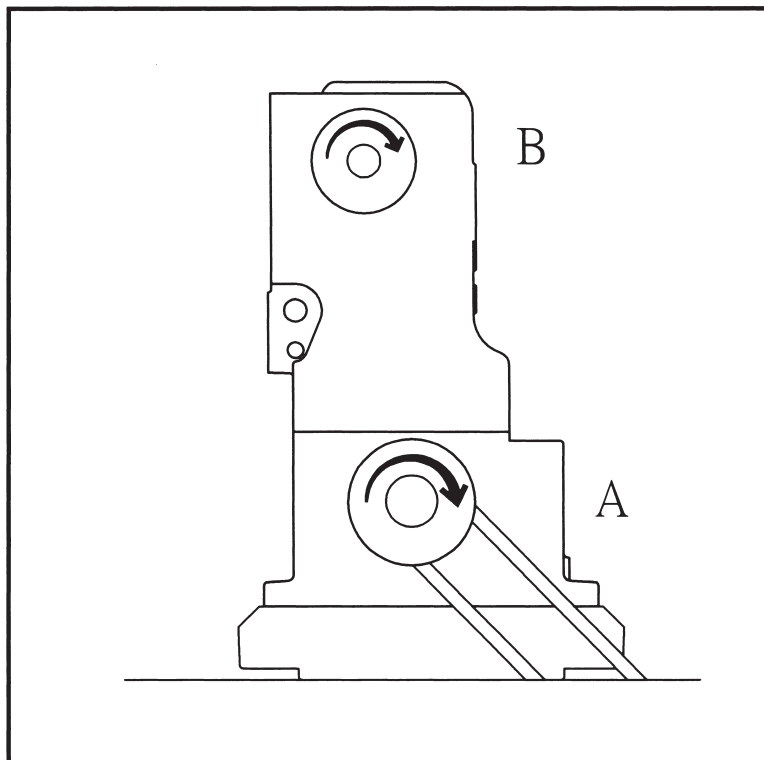

Fig.4
The turning direction of Pulley (A) is clockwise like Handwheel (B). (Fig.4)